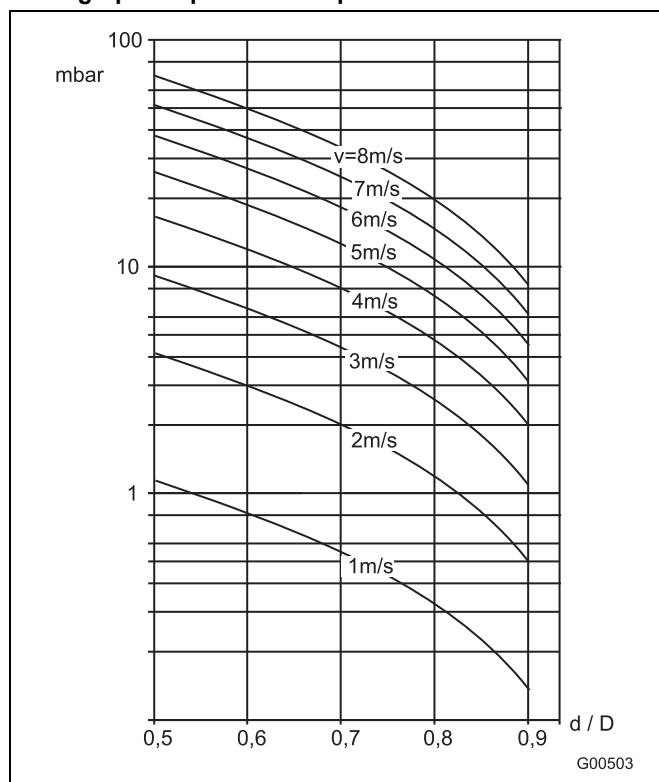

Fig. 15
- Determine the flow velocity based on the flow range nomograph (Fig. 15).
- Read the pressure drop on the Y-axis in Fig. 15.